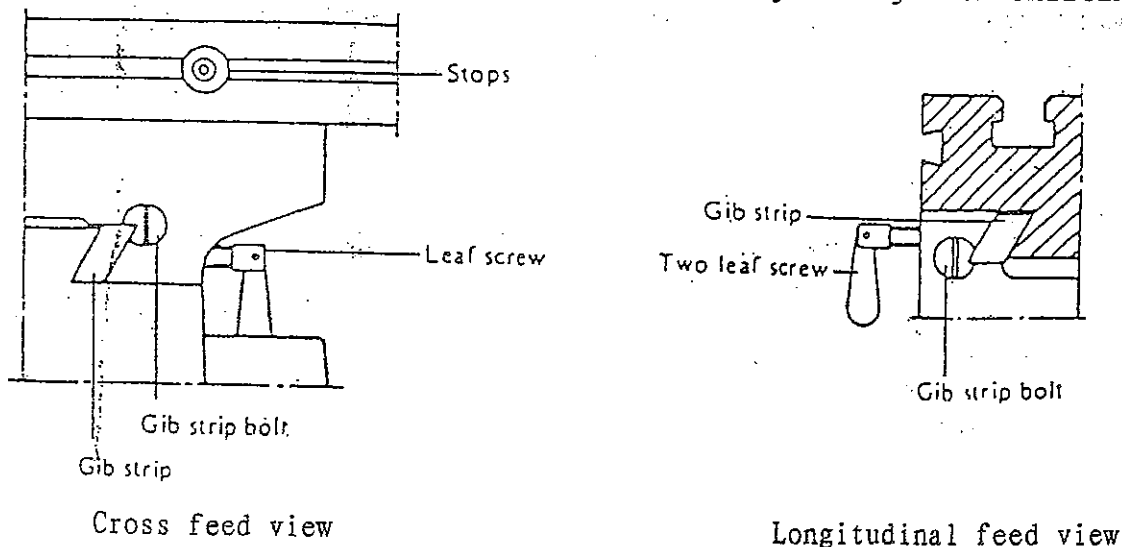

Fig.6
**Adjusting table slack and compensate for wear (see Fig.6)**
**Clamping, table base, and machine base (see Fig.6)**